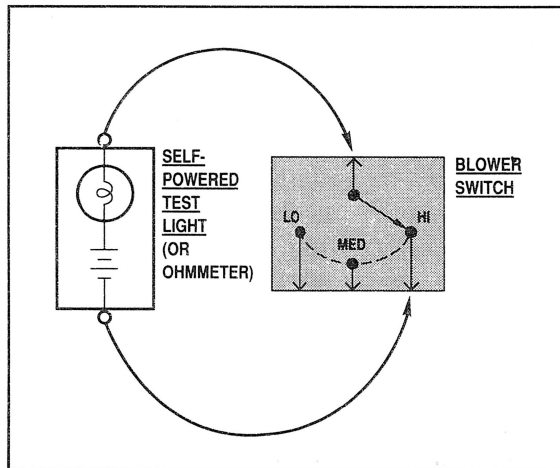

Figure 6 - Continuity Check Through a Switch
3. Connect the other lead to the other end of the circuit (Figure 6).